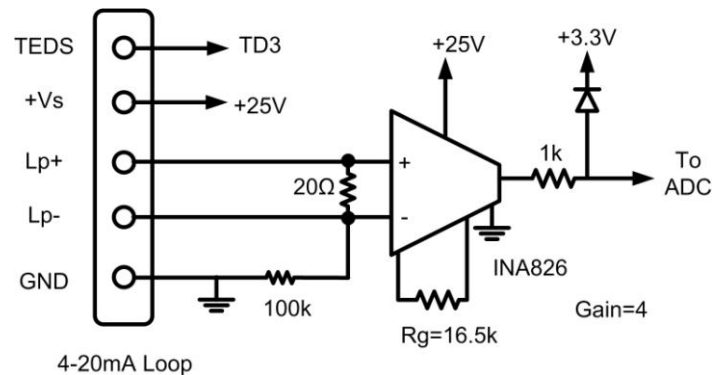

Fig. F6 Circuit Diagram of 4-20 mA Current Loop Interface
Many industrial sensors have a 4-20 mA current loop (transmitter) as the output. There are two general types: (1) loop powered and (2) sensor excitation voltage external to the sensor. Input #3 is of this type. The +24 volt supply on pin 5 is used for loop powered devices (pins 3 & 4 connected, pins 1 and 2 connected), see Fig. F6